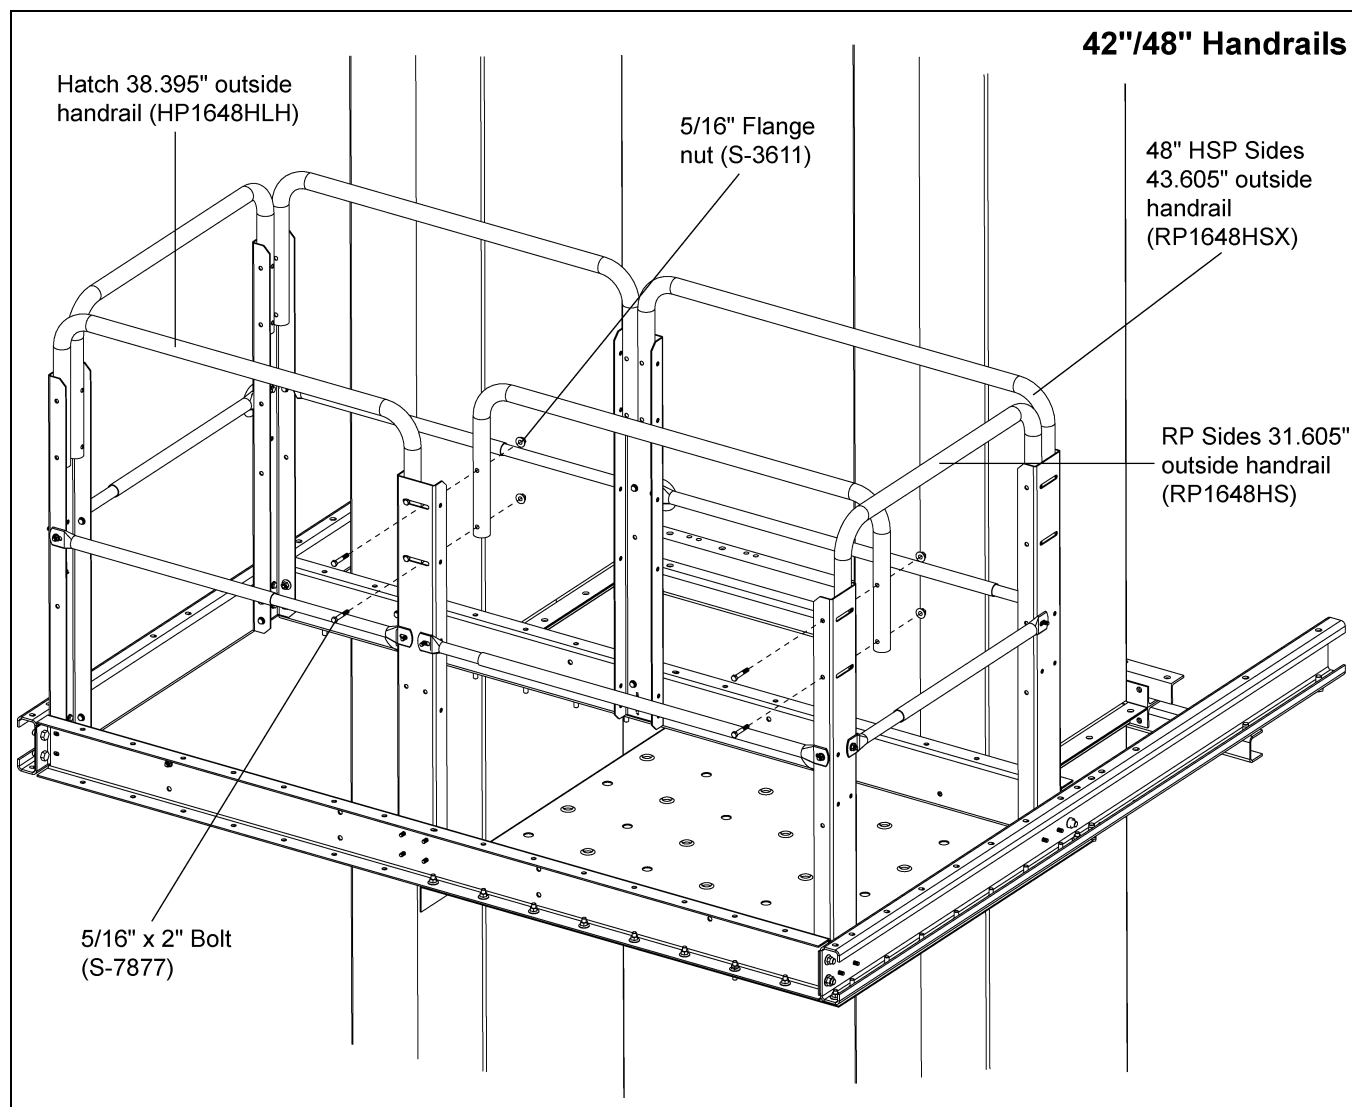

Figure 7M 42"/48" Rest Platform Handrails
1. Connect the handrails to the top two (2) slots in the posts using 5/16" x 2" HHCS bolt (S-7877) and 5/16" flange nuts (S-3611). (See Figure 7M.)